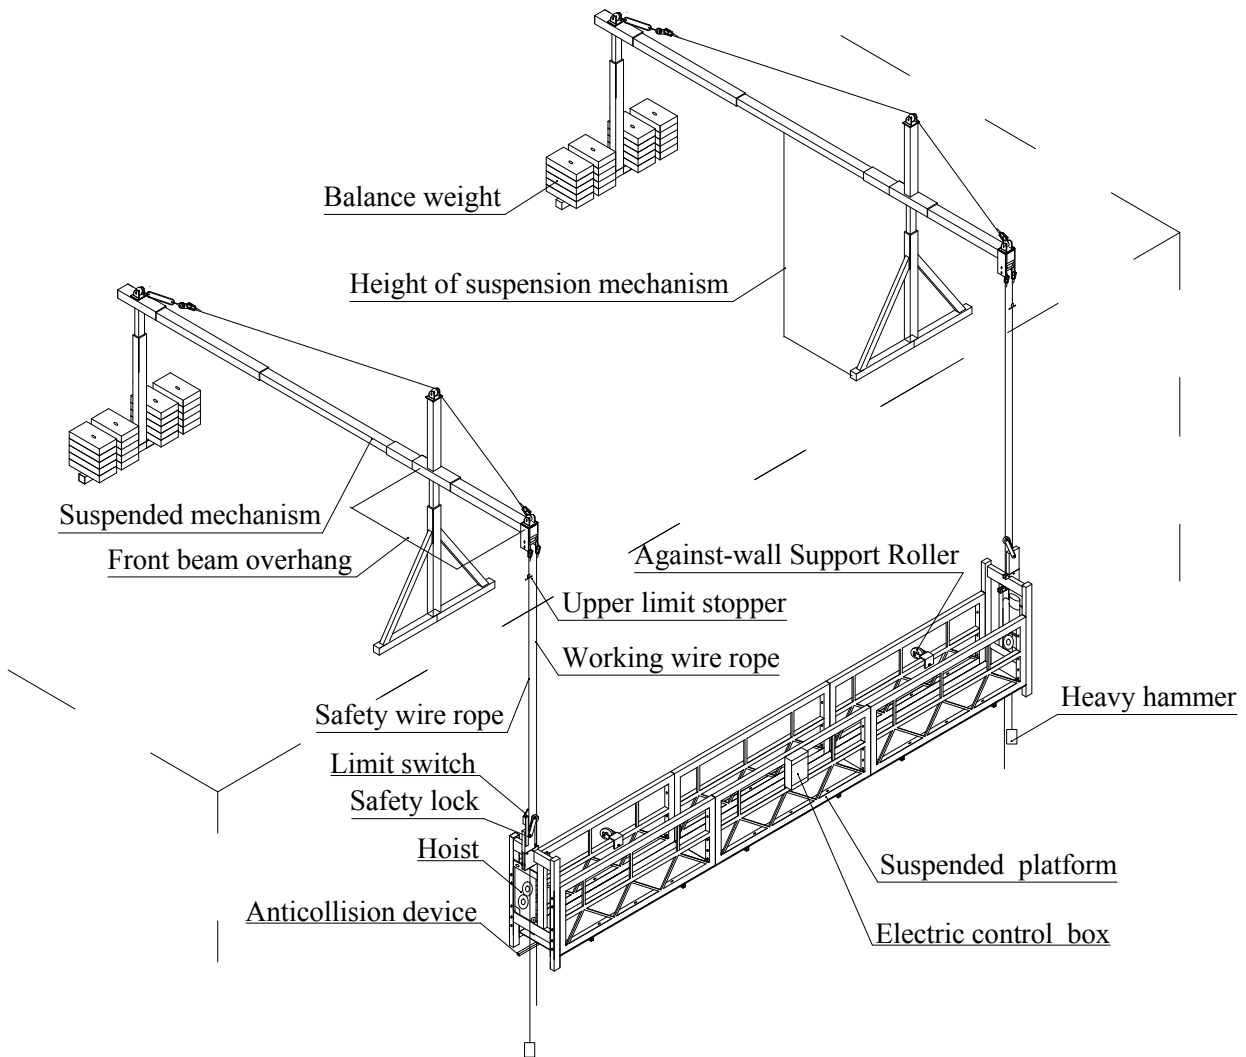
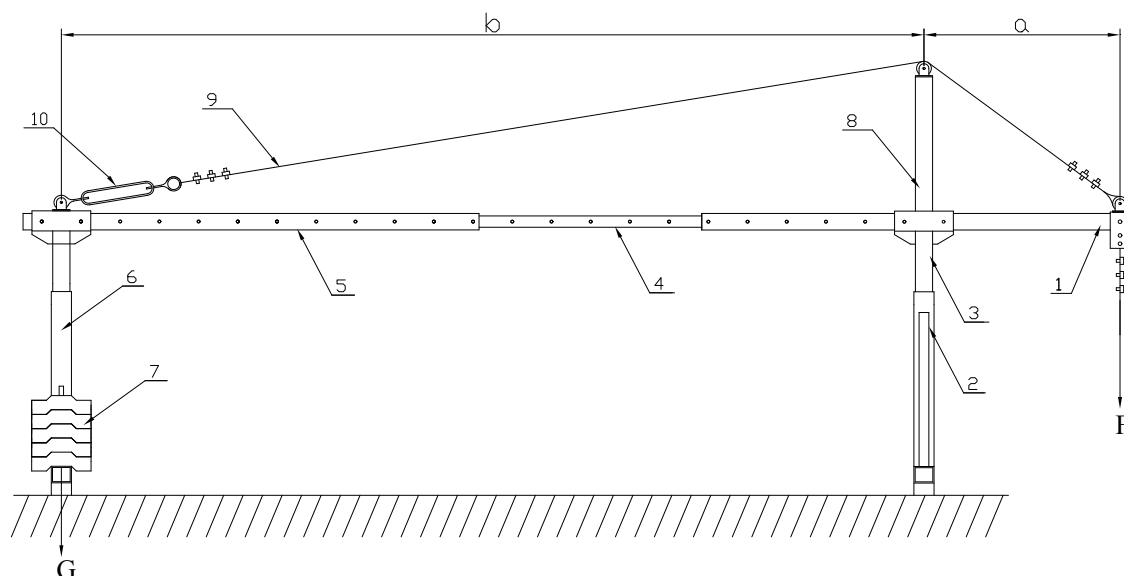

Figure 1: Temporarily Installed Suspended Access Equipment
Figure 2: Suspension Mechanism
ZLP series temporarily installed suspended access equipment consists of the components as below: hoists, safety locks, electric control system, suspend platform, suspension mechanism, counter weight, steel rope, etc (see figure 1 as below).
3.1.1 The suspension mechanism (see figure 2 as below) consists of front beam (1), middle beam (4), rear beam (5), front base (2), rear base (6), upper column (8), tommy bar (3), counter weight (7) and reinforce steel rope (9) etc. The tommy bar is mounted on the front and rear base; the front and rear beams will be fixed through the tommy bar, the middle beam is fixed between the front and rear beam. The upper column is mounted on the tommy bar for fixing the reinforced steel rope and counter weight will be placed on the rear base. For details of structure, see attached figure 1: suspension mechanism on page 23.